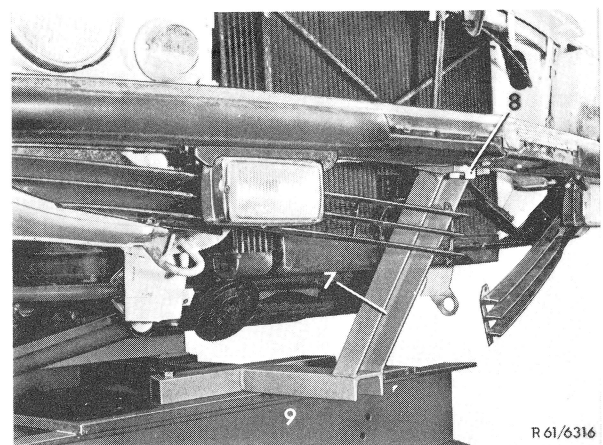

Fig. 3
9 Mount support (7) for front cross member (8) on adjusting bench (9) (Fig. 3).
10 Remove front wheels and place vehicle on adjusting bench (Fig. 3).